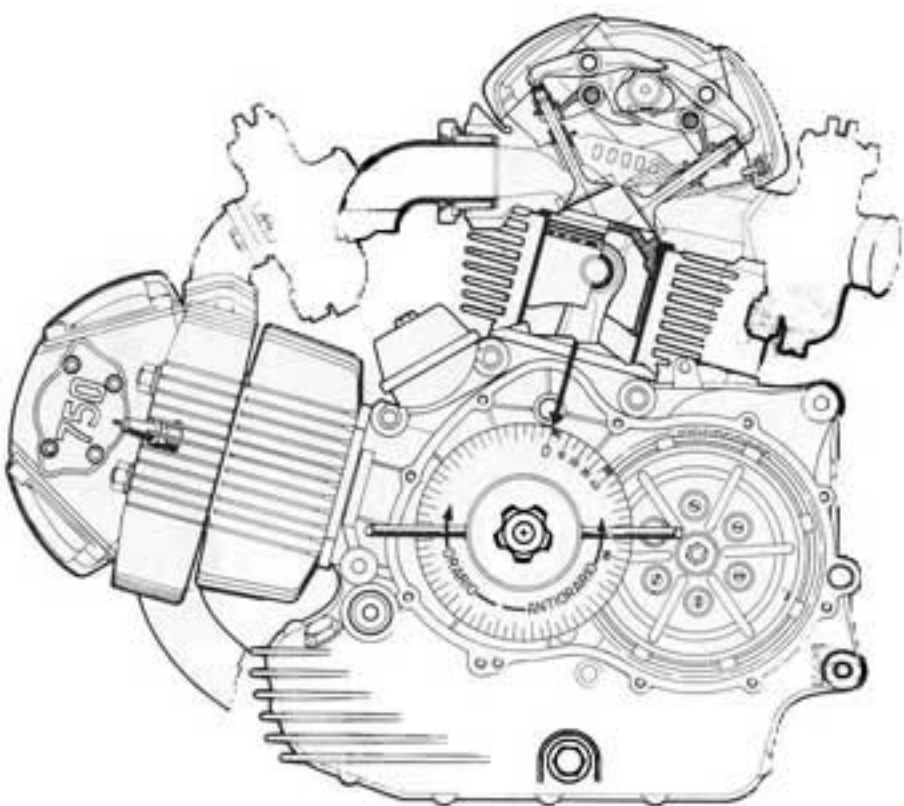

Fig. 9
- 2 - Fit the protractor wheel on the engine axis (see Fig. 9).